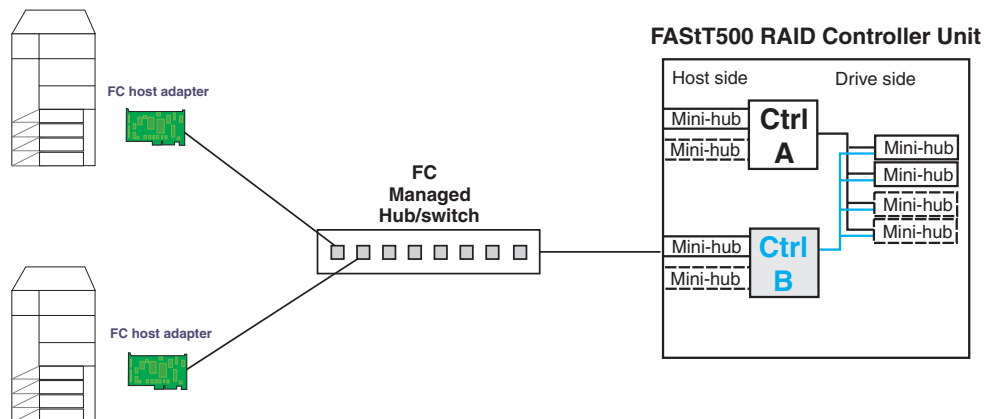

Figure 125. All I/O flowing through controller A
2. All I/O is flowing through controller A. This yields the diagram shown in Figure 125 for debugging.